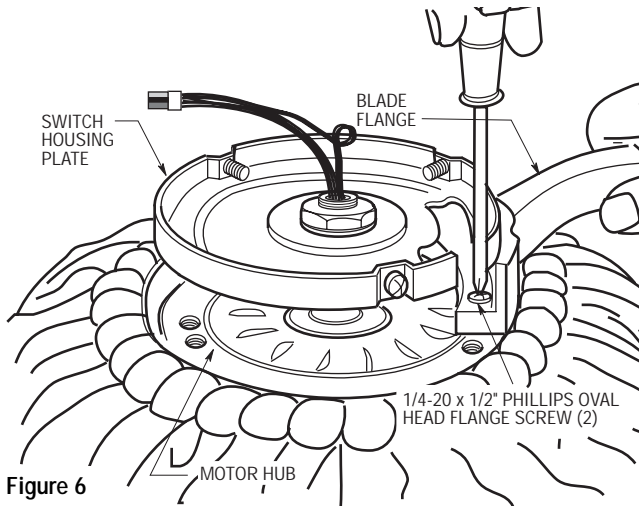

Figure 6
- 10. Rotate the motor hub until the flange screw hole is next to the cutout in the switch housing plate. Loosely attach one blade assembly to the motor hub using two 1/4-20 x 1/2" Phillips oval head flange screws. Make sure the screws are **NOT** tightened. (Figure 6.) Repeat this procedure for the other four blade assemblies.